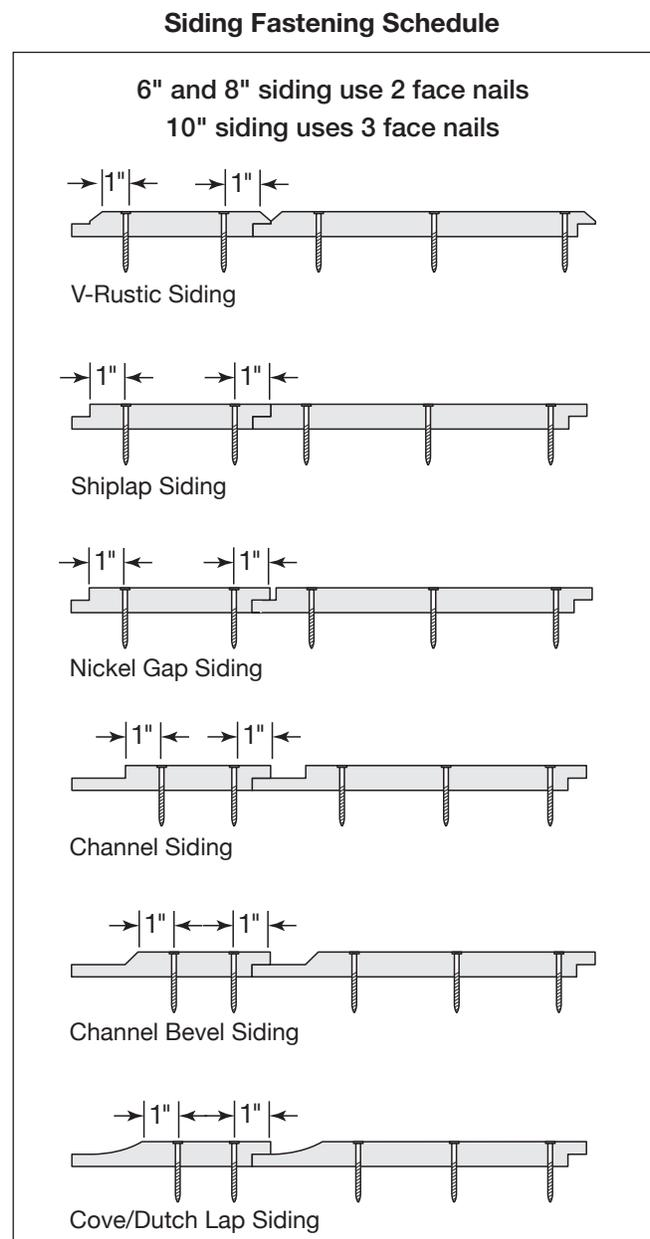

Fig. 18
- Fasten each piece of siding through the face 1 inch away from the edge of the siding reveal area (**Fig. 18**), no less than 3/4" from the edge
- For 4", 6" and 8" profiles use 2 fasteners per every framing member. Both fasteners should be through the face of the profile (**Fig. 18**)
- All fasteners should be through the face of the profile (**Fig. 18**)